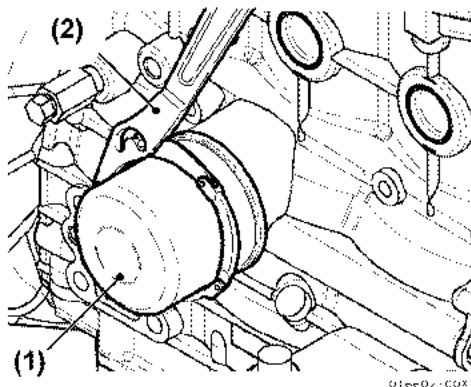

Figure 5-28
23. Remove the lubricating oil filter (Figure 5-28).